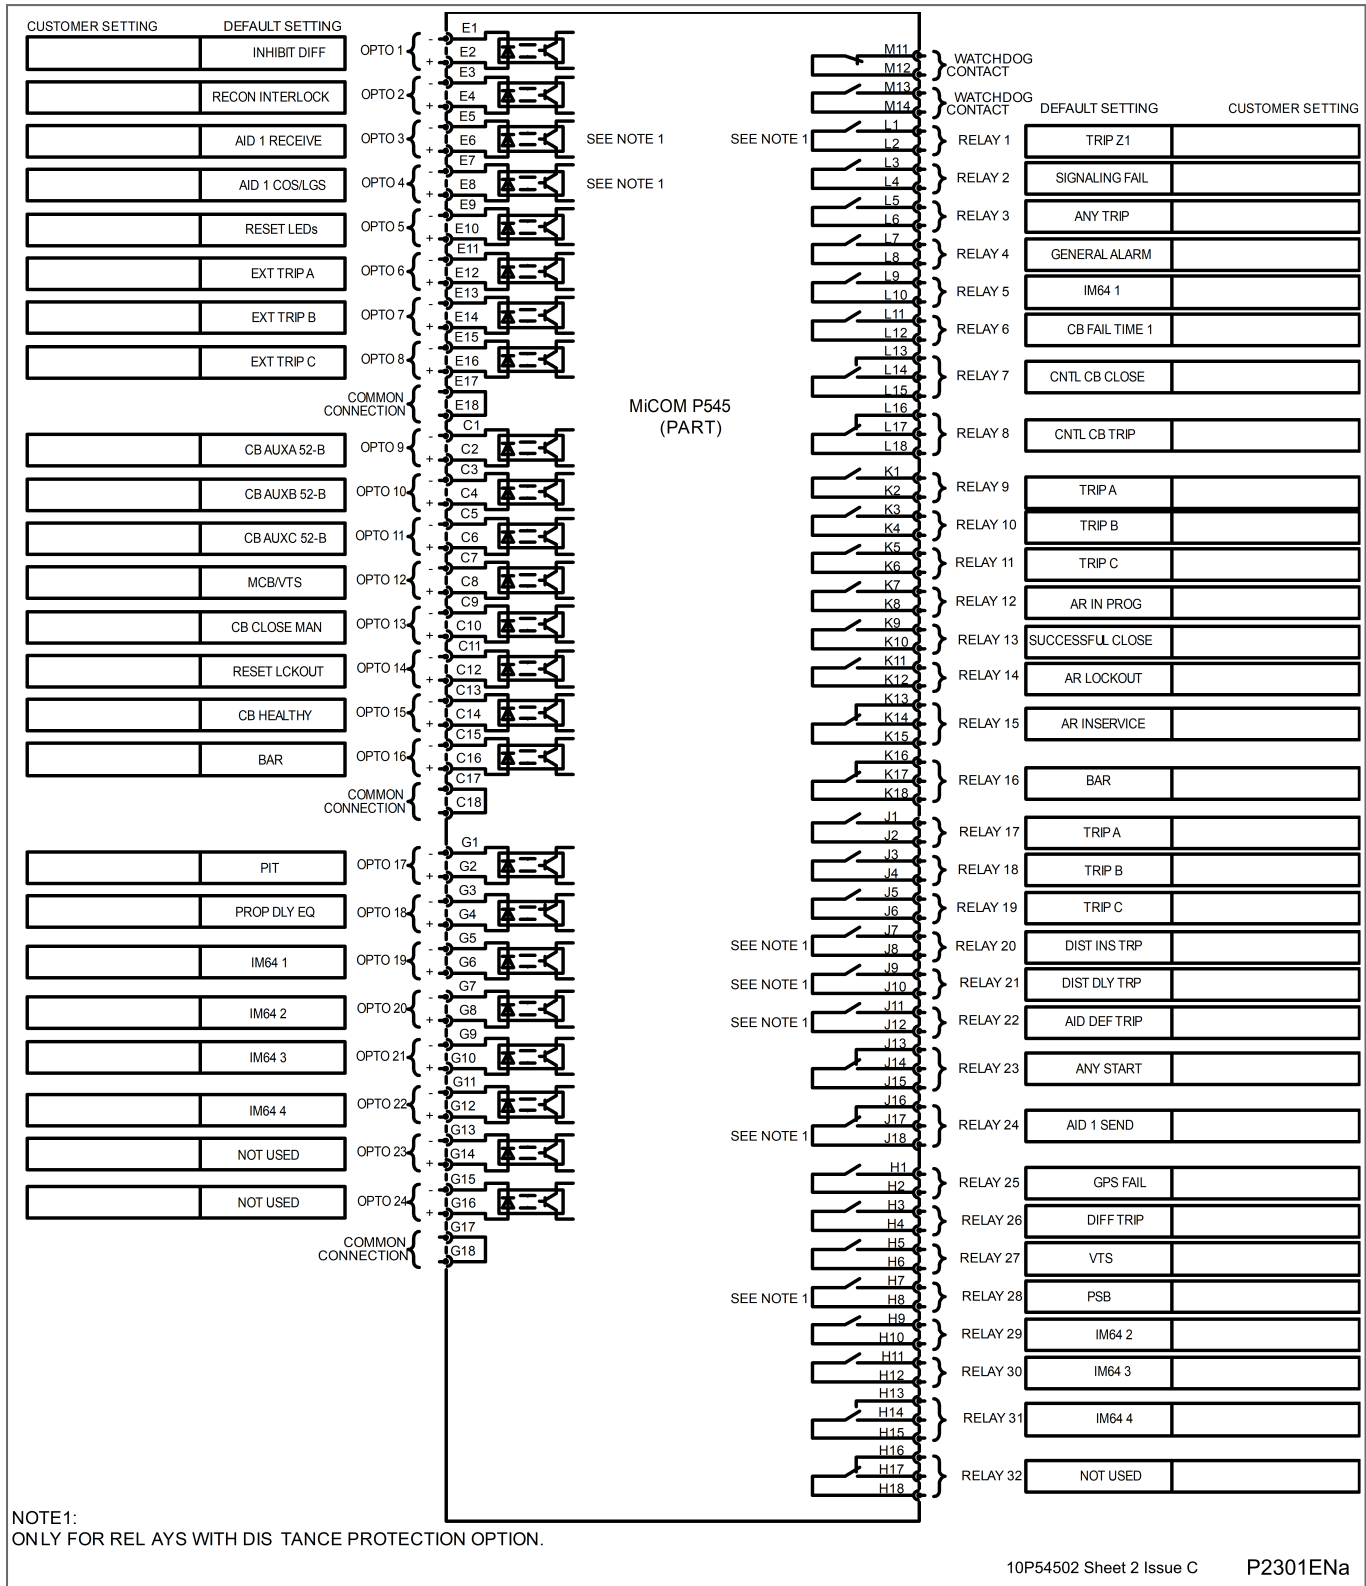

Figure 15 - P545 - inputs/outputs default mapping - standard outputs
- Figure 15 - P545 - inputs/outputs default mapping - standard outputs